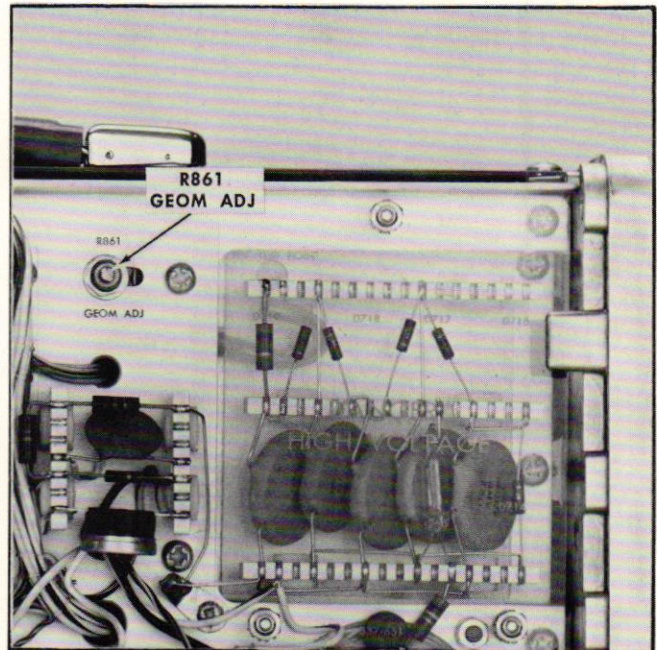

Fig. 5-6. Location of geometry adjustment (right side).
c. ADJUST—Geom Adj R861 (see Fig. 5-6) for optimum line straightness.